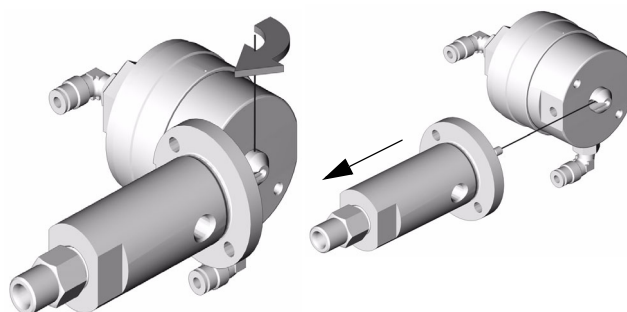

FIG. 3
5. Separate the air and fluid sections. See FIG. 3.
2. Insert spacers(23) and screws (24) and tighten. See FIG. 3.
3. Screw the valve cap (10) down onto the housing (7) until additional resistance is felt and the cap is tight with the housing.
4. Unscrew the valve cap (10) one complete turn for the factory needle setting, or unscrew cap to setting prior to repair.